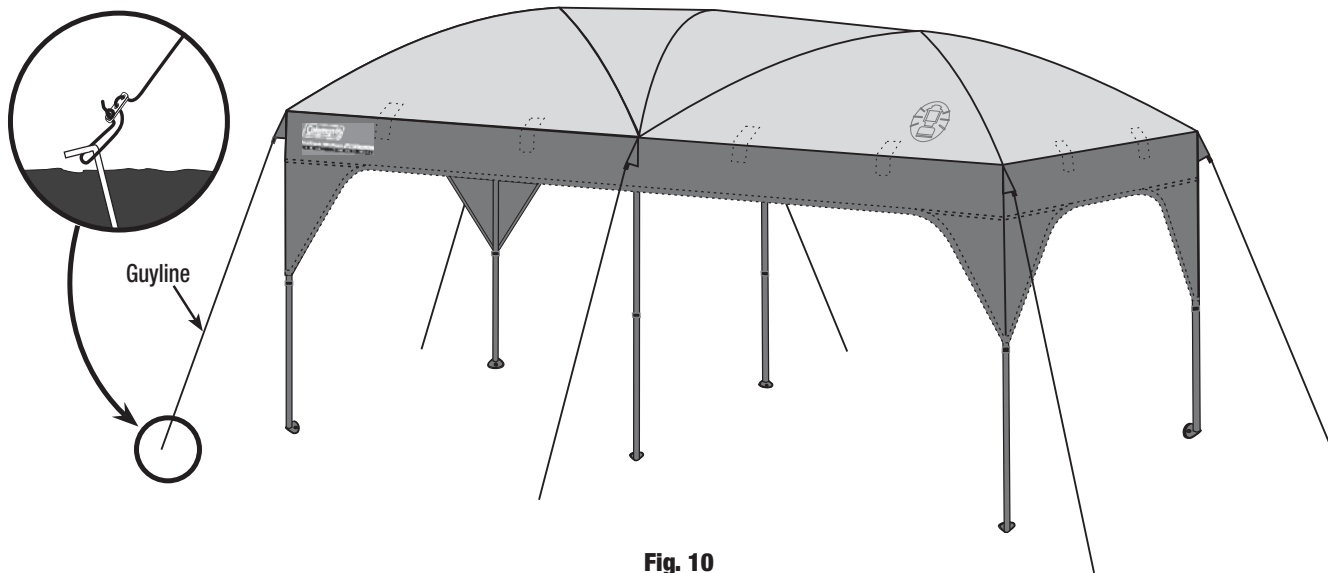

Fig. 10
- Attach and stake out guylines. (Fig. 10)